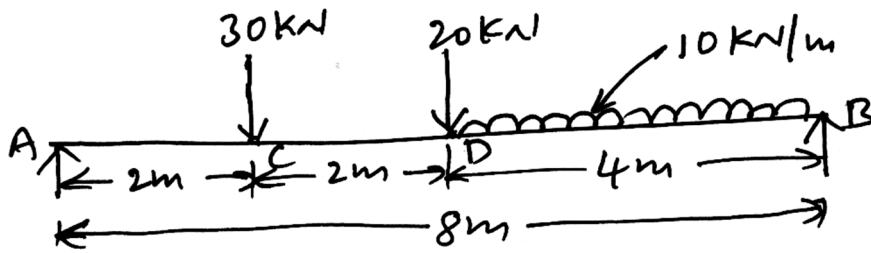

Fig. Q3(a)
- 3 a. The simply supported beam shown in Fig. Q3(a) carries two concentrated loads and a uniformly distributed load, Draw shear force diagram and bending moment diagram.